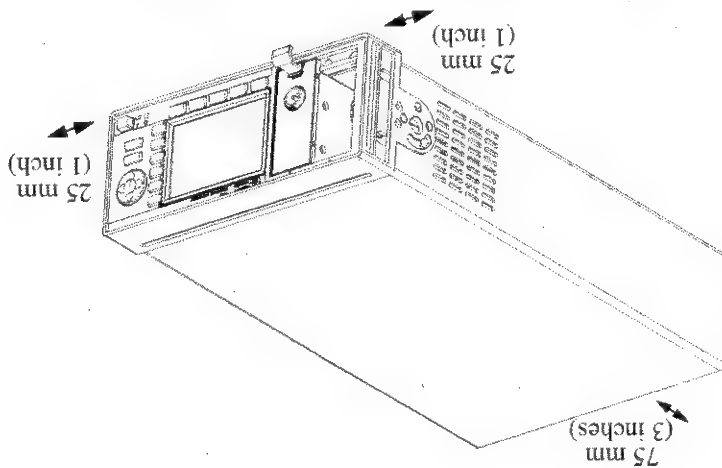

Figure 150 Correct Operating Position of the 8163A
Mount or position your instrument upright and horizontally, as shown in Figure 150, Figure 151, or Figure 152 so that air can circulate through it freely.
- The HP 8164A Lightwave Measurement System can be stored in its operating position, as shown in Figure 150, or on its back legs as shown in Figure 153. The back legs protect the connectors on the back panel from damage.